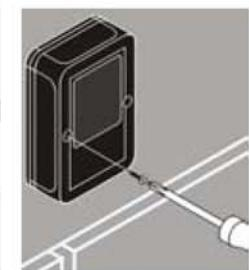

Fig. 13 / Bild. 13
- 9 - Fit the cover using the screws supplied (Fig. 13).